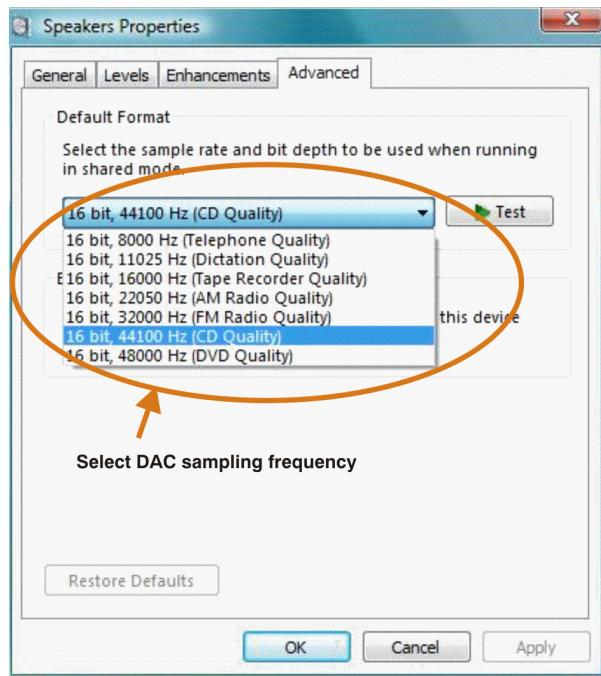

Figure 3-5. Speakers Properties—Advanced Tab (Windows Vista)
2. Open the speaker properties of the USB audio codec from the Sound options and select the Advanced tab, as Figure 3-5 illustrates.